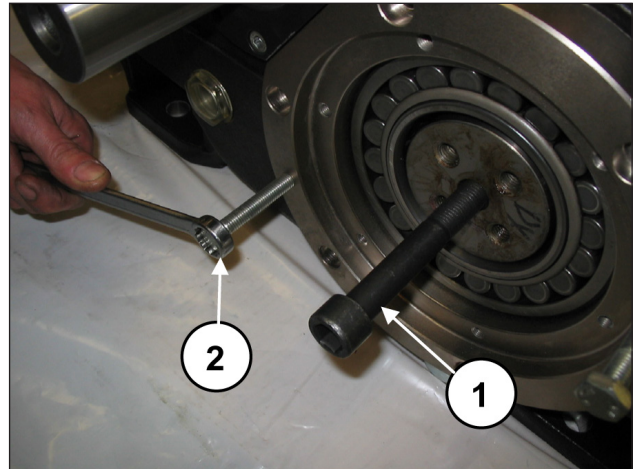
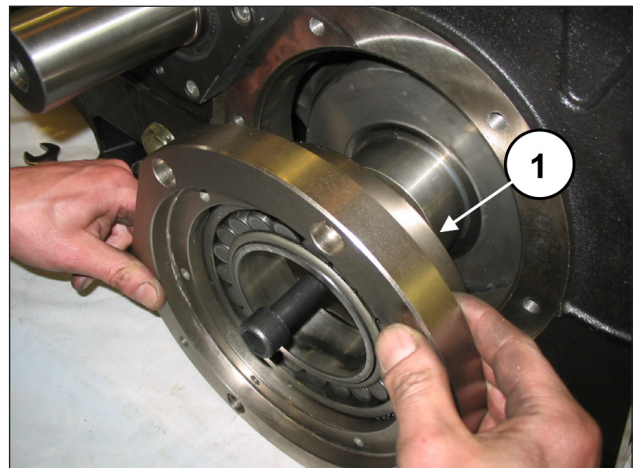

Fig. 23
Fig. 24
Apply an M16 threaded pin to one end of the bend shaft (pos. ①, Fig. 23) and, while keeping it raised, take out the bearing support cover complete with bearing and O-ring (pos. ②, Fig. 24). To help with their removal, use 2 x M10 grub screws or screws (pos. ②, Fig. 23) as extractors. Repeat the operation on the other side.